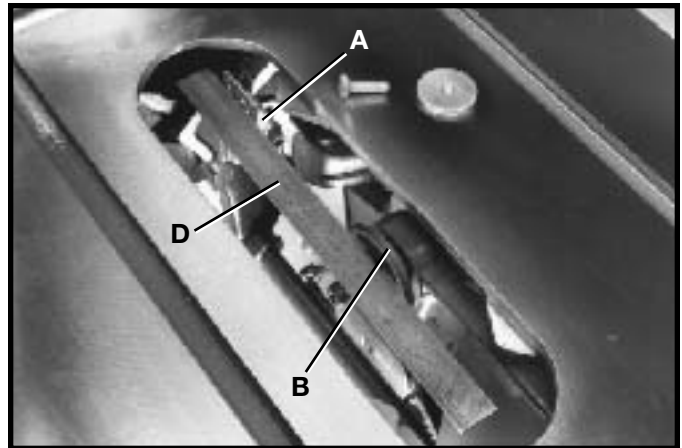

Fig. 24
3. Using a straight edge (D) Fig. 24, check to see if the splitter bracket (A) is aligned with the inside blade flange (B). Check both the top and bottom of bracket (A) with the top and bottom of flange (B).